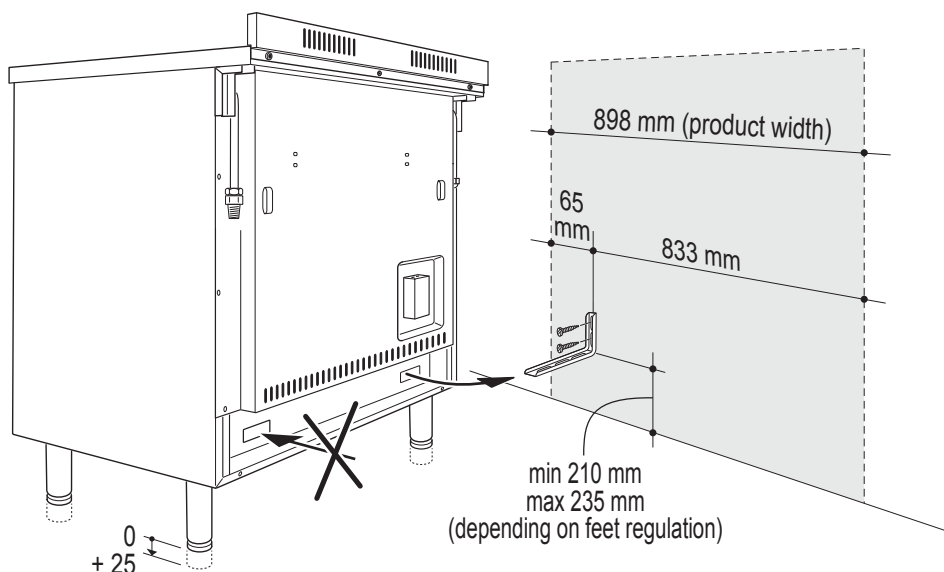

Fig. 8.8
Please follow the indications given in fig. 8.8.
4. Move the cooker to the wall and adjust the height of the anti-tilt bracket so that it can engage in the slot on the cooker's back, as shown in fig. 8.8.